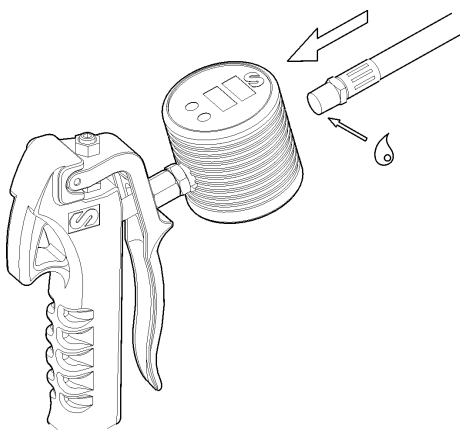

Fig. 2
1. Install the outlet extension to the outlet thread of the meter and tighten it well (fig 2). Use Loctite #242 to seal the threads.
1. Coloque la extensión a la salida de la pistola y apriete firmemente (Fig. 2).